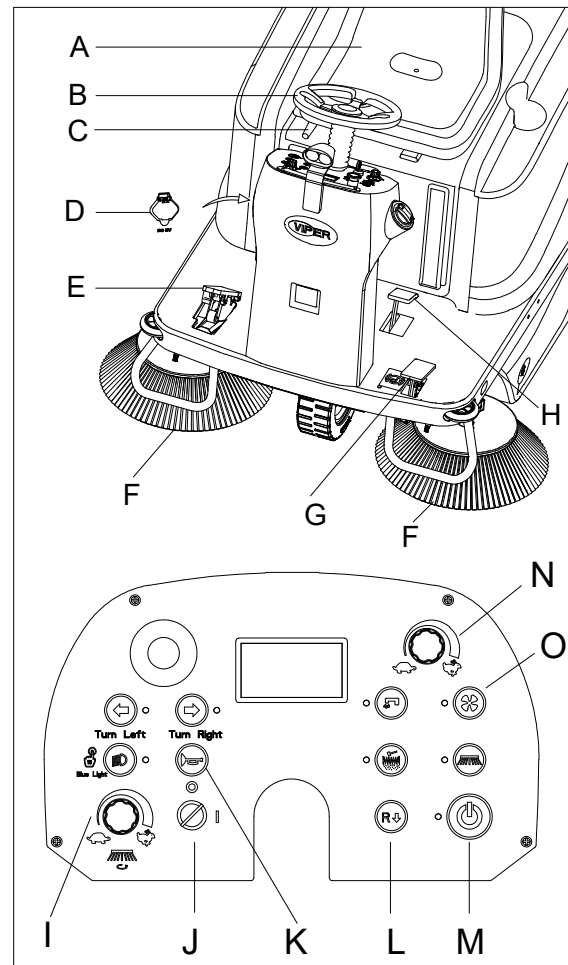

Figure 10
1. Sit on the driver's seat (A, Figure 10) and adjust its position with the lever (C, Figure 10) to allow easy reach of all controls.
The driver's seat (A, Figure 10) is equipped with a safety sensor, which allows the machine to be driven only when the operator is on the driver's seat.
1. Sit on the seat (A, Figure 10), insert the ignition key (J, Figure 10), and turn it to "I".
3. Press one-button start button (M, Figure 10) to start the machine, the side brooms and main broom are lowered to the floor automatically.
4. Press the accelerator pedal (E, Figure 10), drive the machine forward or backward with steering wheel (B, Figure 10) and forward-reverse button (L, Figure 10). Driving speed can be adjusted with speed adjusting knob (N, Figure 10). Main/side brooms and vacuum motor begin to work.
5. Adjust side broom speed with side broom speed adjusting knob (I, Figure 10) based on cleaning requirements.
6. The USB charging port (D, Figure 10) can be used to charge mobile phone or pad when ignition key (J, Figure 10) is turned to "I".
7. Press the horn button (K, Figure 10) to warn people when necessary.
The main broom and side brooms (F and H, Figure 10) can be lowered and lifted even when the machine is moving. The main broom and side brooms do not rotate when they are lifted.
8. Start sweeping by turning the steering wheel (B, Figure 10) and driving the machine forward with the accelerator pedal (E, Figure 10).
9. Release the accelerator pedal (E, Figure 10), and the machine stops moving.
10. Press one-button start button (M, Figure 10) again to turn off brooms, vacuum motor and pump. The main broom and side brooms are lifted from the floor automatically. The vacuum system is turned off after a delay of several seconds.
4. To collect light and bulky waste materials, lift the front blade by pressing the flap pedal (H, Figure 10); take into consideration that the machine vacuum capability is reduced when the front blade is lifted.